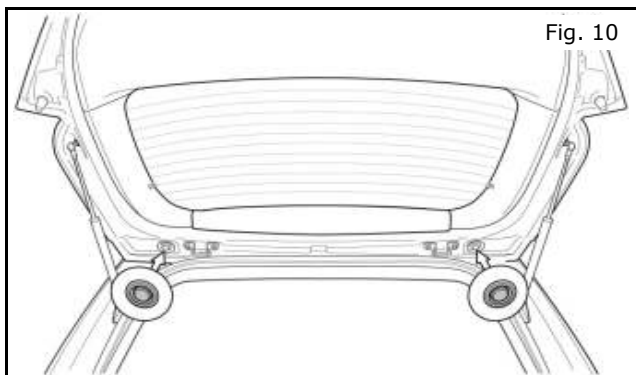

Fig. 10
- i) Re-install the driver side grommet plug from step j and install the provided grommet plug in the passenger side access hole. (Fig. 10)